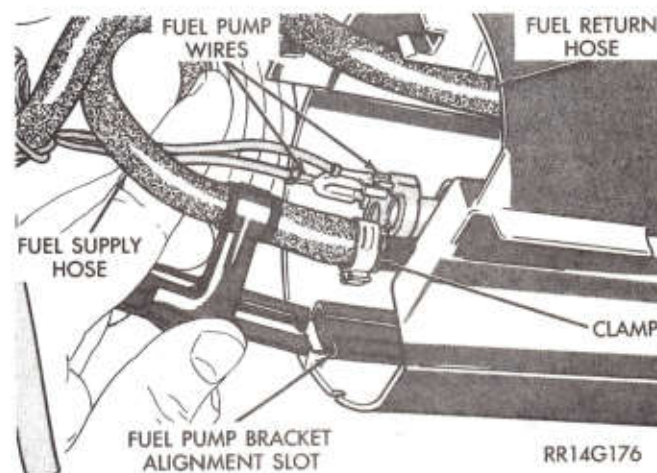

Fig. 8—Removal and Installation of Fuel Pump
(4) Position the pump in the reservoir such that the filter aligns with the cavity in the reservoir (Fig. 8).